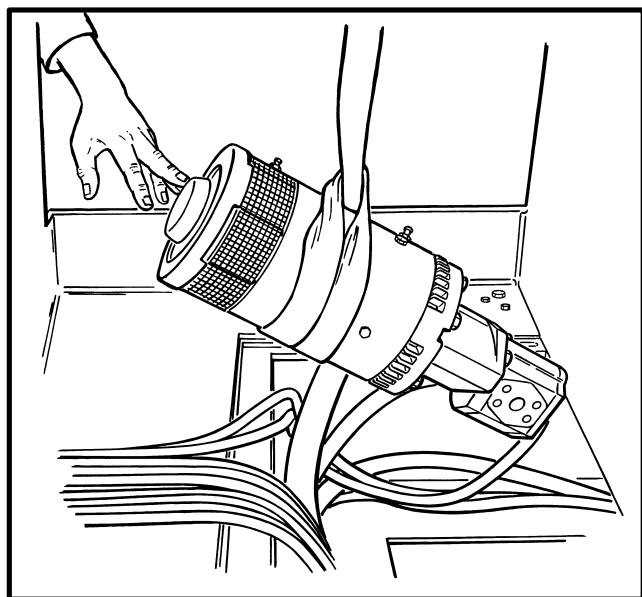
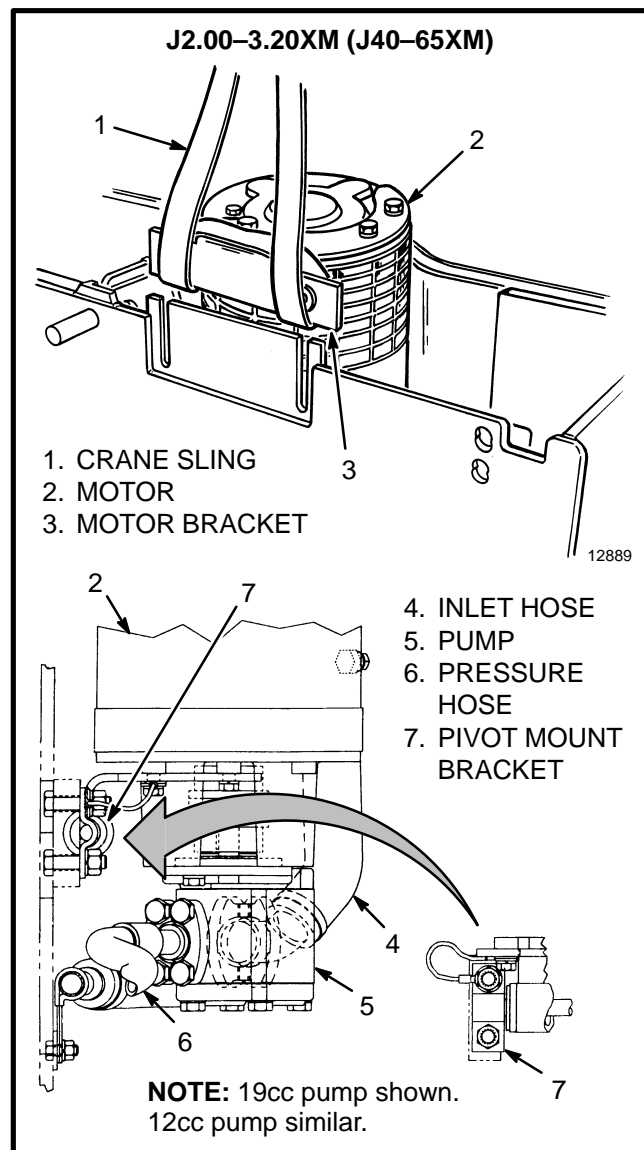
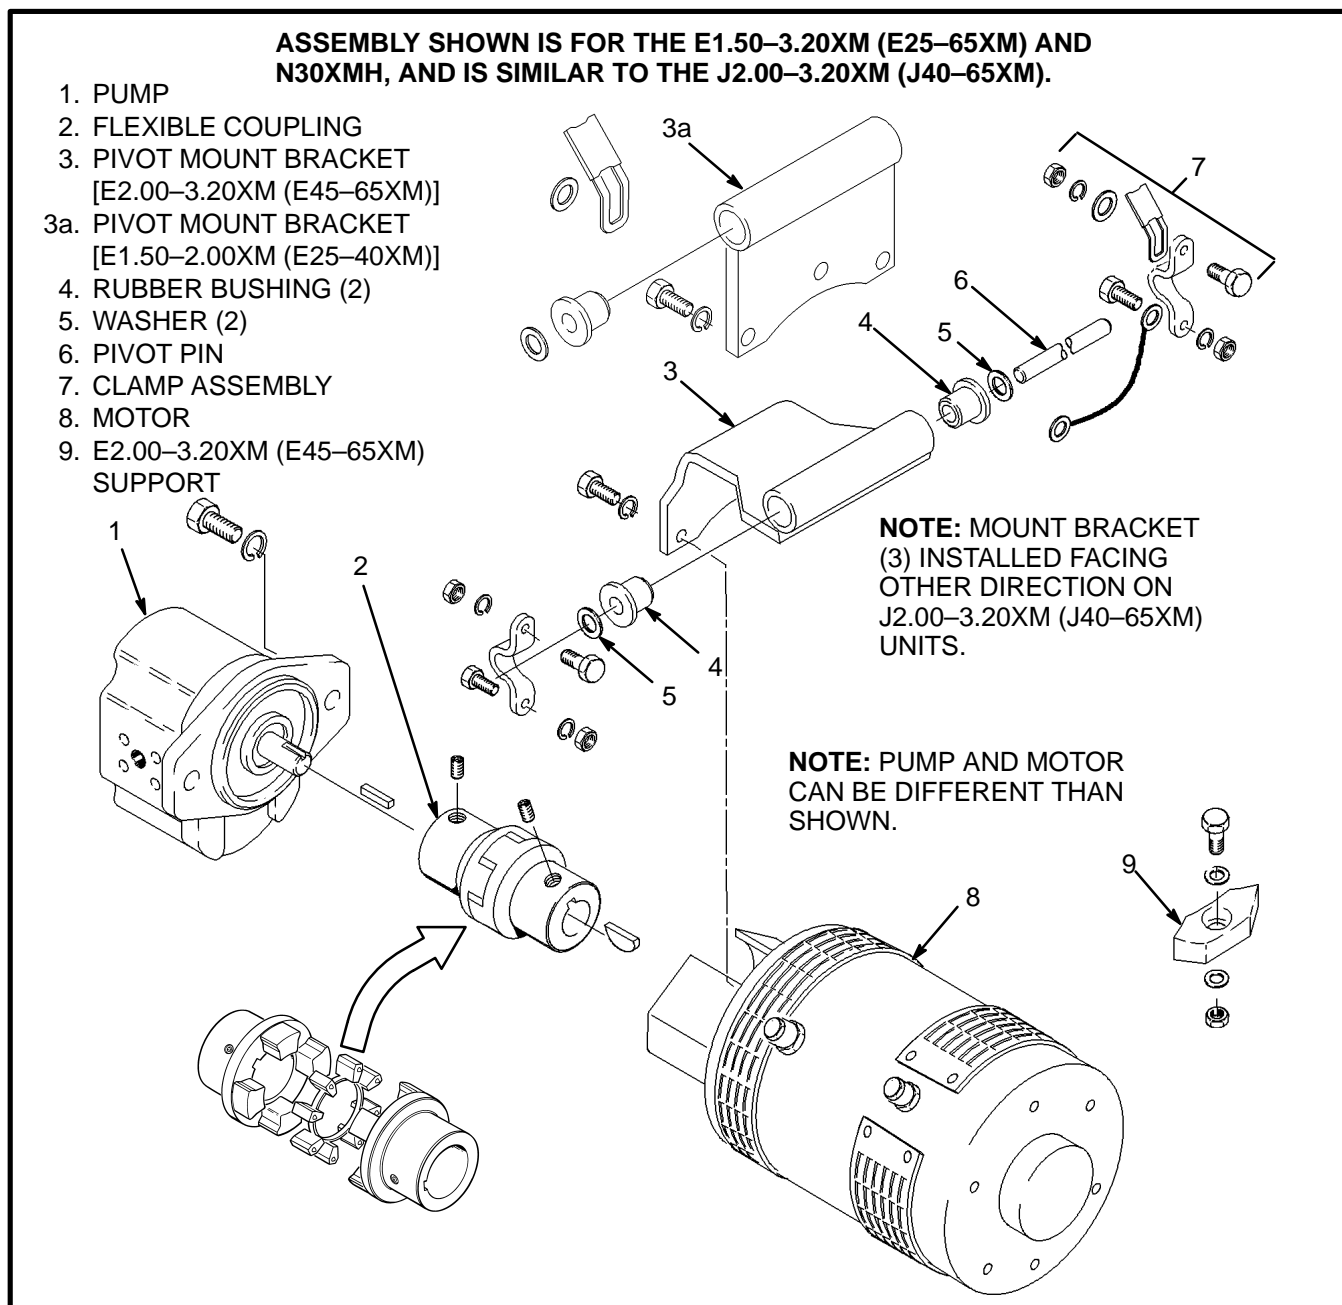

FIGURE 12. REMOVE THE HYDRAULIC PUMP AND MOTOR
FIGURE 13. REMOVE THE J2.00–3.20XM (J40–65XM) HYDRAULIC PUMP AND MOTOR
FIGURE 15. HYDRAULIC PUMP AND MOTOR ASSEMBLY WITH MOUNT
Removing E1.50–3.20XM (E25–65XM) and N30XMH Hydraulic Pump (See FIGURE 12. and FIGURE 15.)
NOTE: In Step 4, remove the clamps from the pin in the pivot mount bracket to remove the pump and motor under the battery. Remove the clamps under the floor plate for the pump and motor to disconnect the pivot mount bracket at the motor. See FIGURE 15. The motor under the battery will tip down with force when the bracket is removed. Use a lifting device to keep the motor vertical. Make sure the lifting device will securely hold the motor before disconnecting the mount at the bottom of the motor.
4. Connect a sling and crane to the motor. See FIGURE 12. Make sure the crane and sling have a capacity of approximately 50 kg (110 lb) or more. Discon-
Remove The J2.00–3.20XM (J40–65XM) Hydraulic Pump (See FIGURE 13. and FIGURE 15.)
6. Connect a sling and crane to the motor. See FIGURE 13. Make sure the crane and sling have a capacity of approximately 50 kg (110 lb) or more. Disconnect the power cables and mark the cables for correct installation. Disconnect the pivot mount bracket from the motor. Use the crane to lift the hydraulic pump and motor from the lift truck.
Assemble Pump On The Motor (See FIGURE 15.)
2. Make sure that the halves of the coupling are correctly engaged. Make sure the Allen screws that fasten the coupling to the shafts are tight. Make sure the pump is aligned to the motor as marked during disassembly. Install the capscrews that fasten the pump to the motor. See FIGURE 15.
1. Connect the pivot mount bracket to the motor as shown in FIGURE 15. Connect a sling and crane to the motor. See FIGURE 12. Make sure the crane and sling have a capacity of approximately 50 kg (110 lb) or more. Use the crane to lift the hydraulic pump and motor into the correct position in the lift truck. Connect the power cables as marked during removal.
2. Install the clamps on the frame to mount the pump and motor. Align the pivot mount bracket of the motor. See FIGURE 15. Install the clamps over the pin in the pivot mount bracket. Make sure to install the washers and wire (ground connection) between the mount and clamp brackets.
3. Connect the pivot mount bracket to the motor. Make sure the bracket is installed so that the tube of the bracket is on the pump side NOT the motor side as shown in FIGURE 15. Connect a sling and crane to the motor. See FIGURE 13. Make sure the crane and sling have a capacity of approximately 50 kg (110 lb) or more. Use the crane to lift the hydraulic pump and motor into the correct position in the motor compartment. Connect the power cables as marked during removal.
4. Keep the motor vertical. Install the clamps on the rear bulkhead of the battery compartment to mount the pump and motor. Align the pivot mount bracket of the motor. See FIGURE 15. Install the clamps over the pin in the pivot mount bracket. Make sure to install the washers and wire (ground connection) between the mount and clamp brackets.